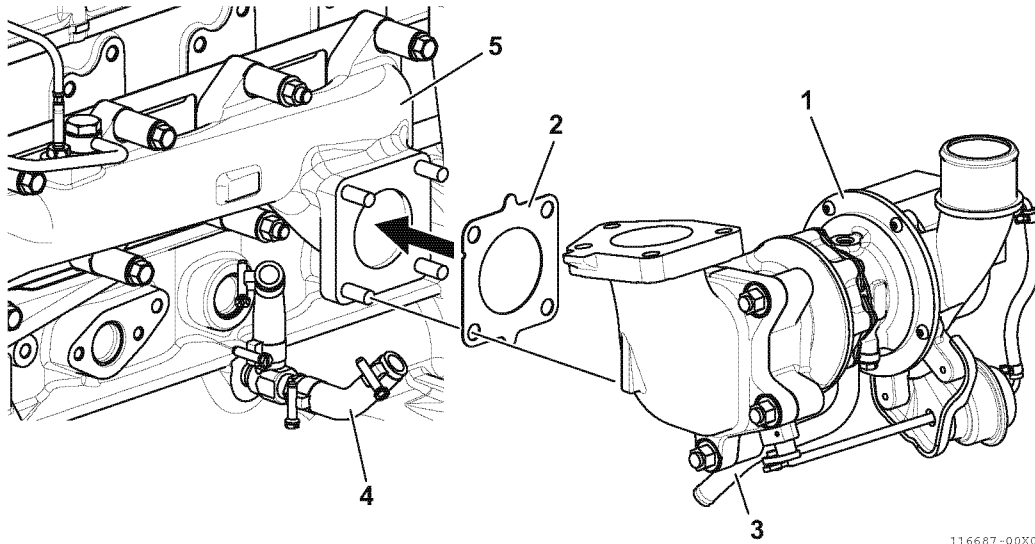

Fig.24-18
- 1 - Before installing the high-pressure stage turbocharger (lower side) (1, Fig.24-18), pour 60 cc (2 oz) of clean lubricating oil in the oil inlet port at the top of the turbocharger. Rotate the compressor wheel to ensure the shaft bearings are lubricated.
- 2 - Install the new gasket (2, Fig.24-18) on the exhaust manifold side, then insert the lubricating oil return pipe (3, Fig.24-18) into the hose (4, Fig.24-18) and install the high-pressure stage turbocharger to the exhaust manifold (5, Fig.24-18).